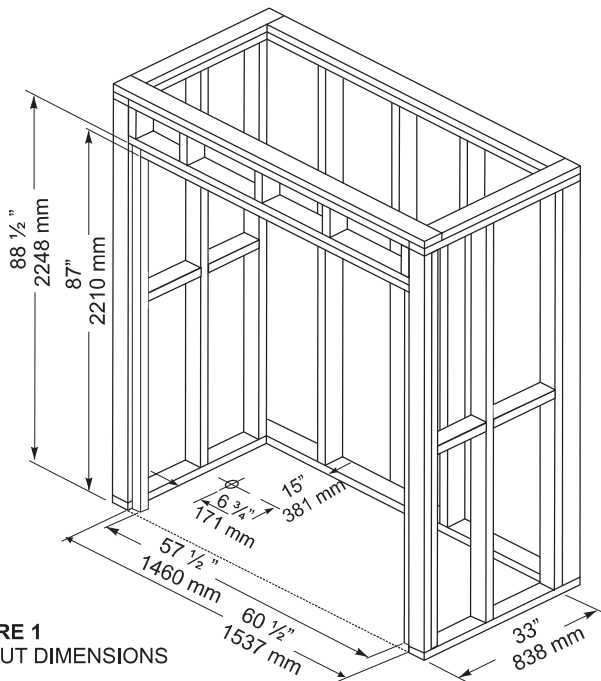

FIGURE 1
- The Tub Shower is to fit into formed recess as shown in Figure 1 and Figure 2.
- Framing: Inside dimension of the studed alcove are to be as specified in Figure 1.
- Build solid framing to the dimensions in Figure 1.